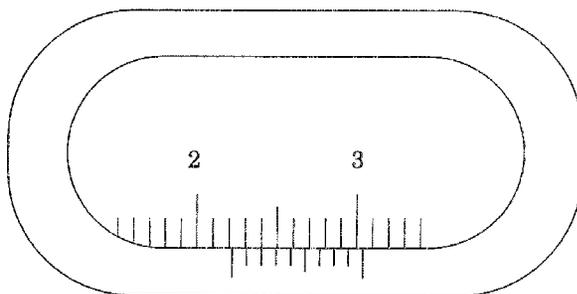

Figure 2.1 Example of a reading of a vernier caliper.
2. Figure 2.1 shows a vernier caliper scale set to a particular reading. What is the reading of the scale? Reading = _____ cm